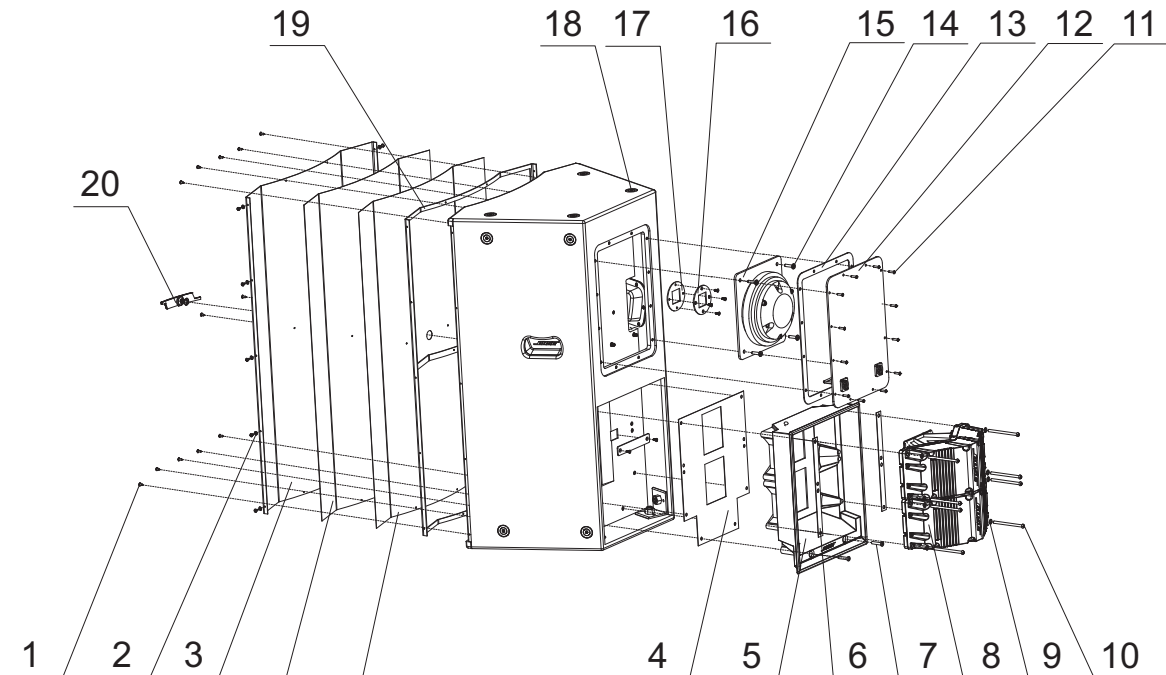

**Figure 9. Panaray LT 9402 WR Loudspeaker Exploded View**
Panaray® LT 9402™ WR Loudspeaker (see Figure 9)
**Note:** Refer to Figure 9 for the following procedures.